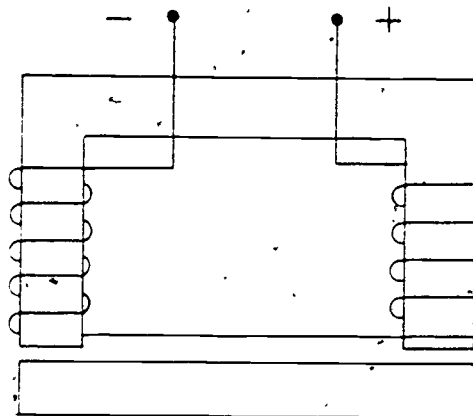

Figure 8. Determining Polarity
10. In figure 8 below determine and mark the polarity of the iron cores and show the path and direction of the flux by means of arrows and lines.